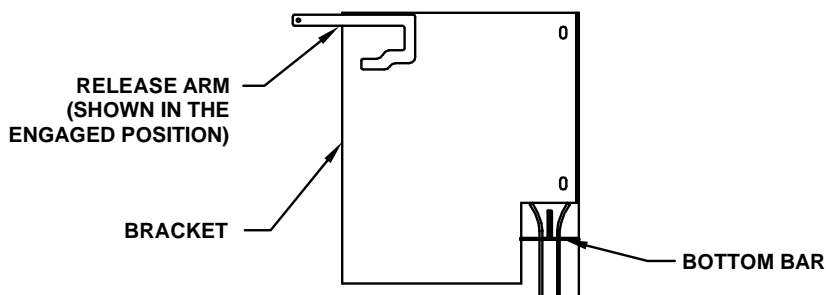

FIG 34
- 8) To reset the door, see reset instruction in FIG 34.